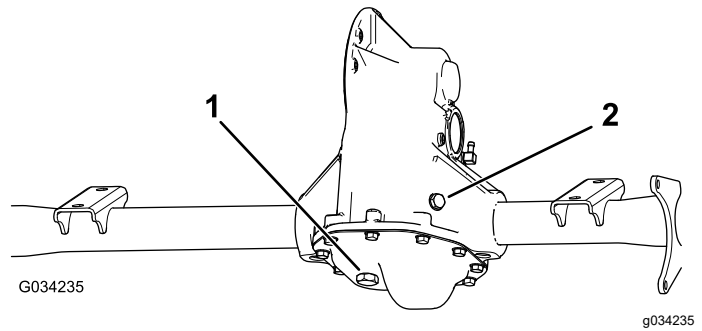

Figure 48
2. Remove the fill plug on the transaxle (Figure 48).
3. If the fluid level is low, remove the fill plug and add the specified fluid until it runs out of the hole (Figure 48).
1. Align a drain pan under the drain plug (Figure 48).
2. Remove the fill plug and the seal (Figure 48).
3. Remove the drain plug and the seal, and allow the fluid to drain completely (Figure 48).